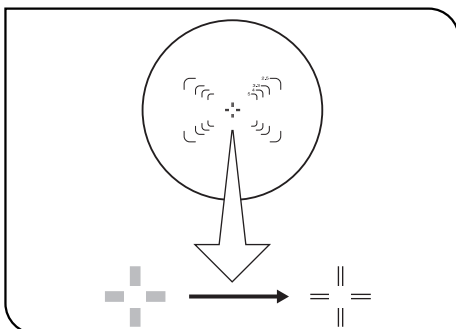

Fig. 17
2. Looking through the right eyepiece, rotate the coarse and fine adjustment knobs to bring the specimen and reticules into simultaneous focus. (Fig. 17)
1. Looking through the right finder eyepiece with your right eye, turn the top of the eyepiece ③ until you see two distinct sets of reticules and a clearly defined double cross-lines in the field of view (Figs. 17 & 18)